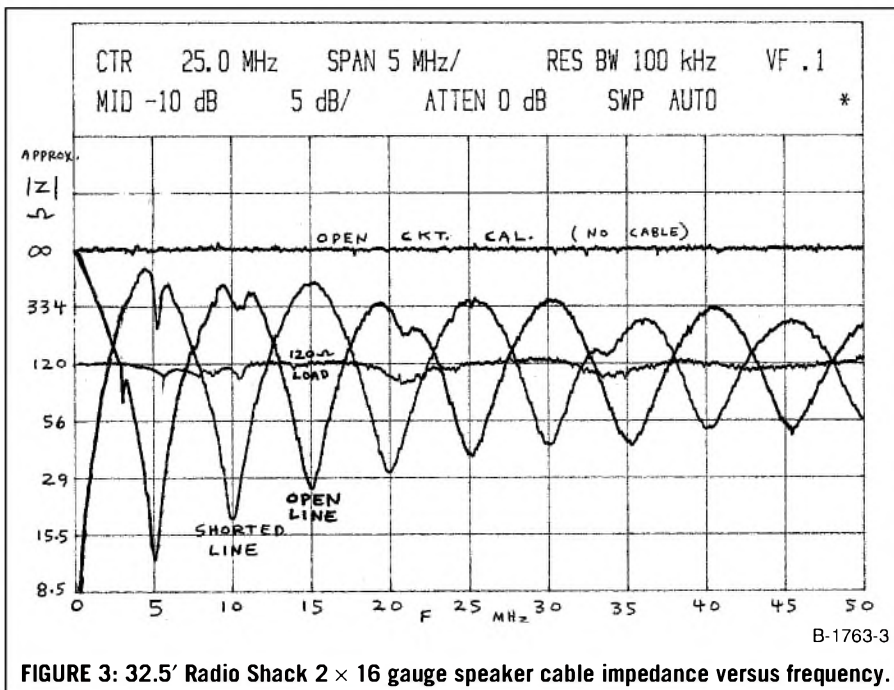

FIGURE 3: 32.5' Radio Shack 2 x 16 gauge speaker cable impedance versus frequency.
Figure 3 shows the results. Note the fairly constant 120Ω input impedance when the cable load is 120Ω; this confirms that value of Z_o . With the far end of the cable shorted or opened, you see the classic resonances at multiples of the quarter-wave frequency, about 5MHz.
But any other load, and especially an open or a short, reflects some or all of it back; that's what causes the "comb filter" resonances in *Fig. 3*. *Photos 9* and *10* show this return pulse. But note how they both have a 100n initial plateau (A), the same voltage jump from (B) as with the 120Ω load. This means that the impedance seen by the pulse generator is the same with any cable load for the first 100ns following a signal change.